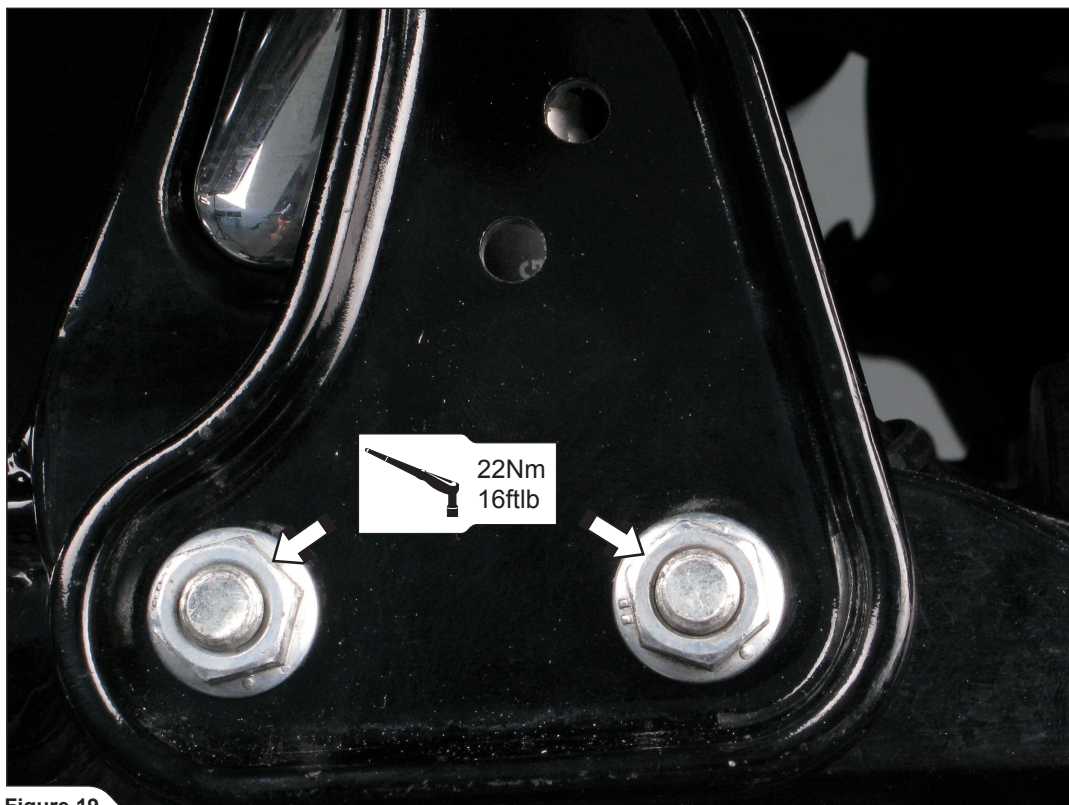

Figure 19
7. Tighten original bracket onto the chassis (Figure 19).